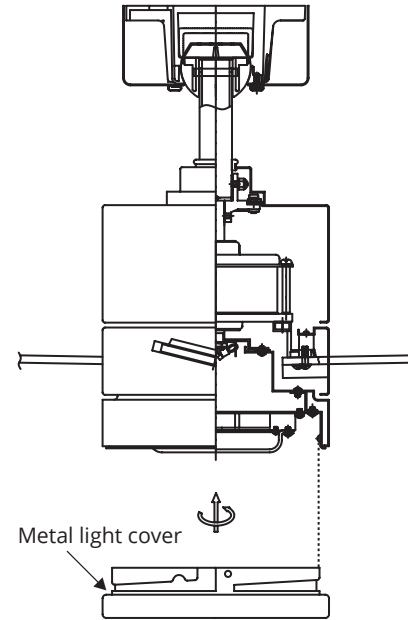

FIGURE 20
5. If installing the optional metal light cover, make sure it is securely tightened. (Fig. 20)
NOTE: Add metal light cover if you do not need lighting function or prefer a different aesthetic. (Fig. 20)